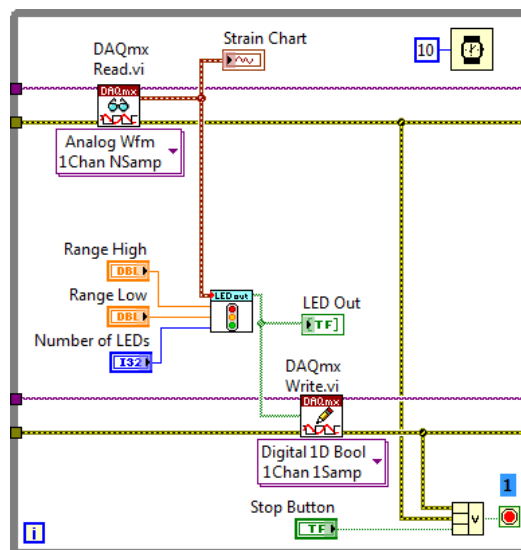

Figure 38. This subVI outputs a Boolean array that can then be output by the DAQmx Write.
25. Wire the call to the subVI like in Figure 38.